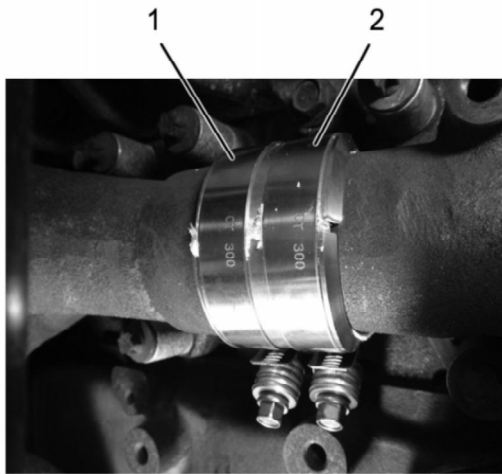

Figure 25: Front Exhaust Manifold Ring Seal
26. Remove and discard failed front exhaust manifold ring seal(s) if applicable (**Figure 25**, Items 1&2)